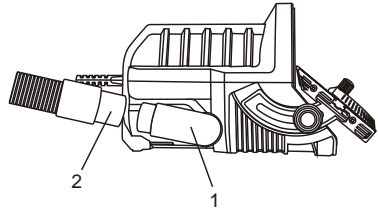

Fig. 11
When using the sander for prolonged periods of time, a vacuum can be attached to the sander to help reduce the amount of dust escaping into the work area. To attach a vacuum hose to the sander, press one end of the vacuum hose adaptor (1) into the side of the sander (Fig. 11). Attach the vacuum hose (2) to the other end of the vacuum hose adaptor.